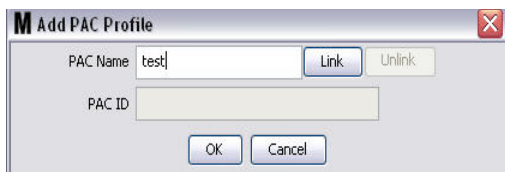

FIG. 113
3. The Add PAC Profile screen is shown in FIG. 113. On this screen you are prompted to name the PAC. After you type the name of the PAC in the field, click OK to close the screen and save the changes.